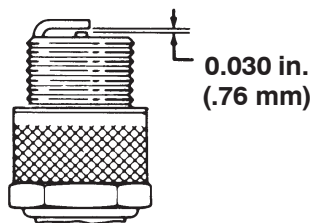

Figure 39
- Set the air gap between the center and side of the electrodes at 0.030 in. (.76 mm) (Fig. 39) Install the correctly gapped spark plug w/gasket seal, and tighten the plug to 200 in.-lb. (23 N·m). If a torque wrench is not used, tighten the plug firmly.